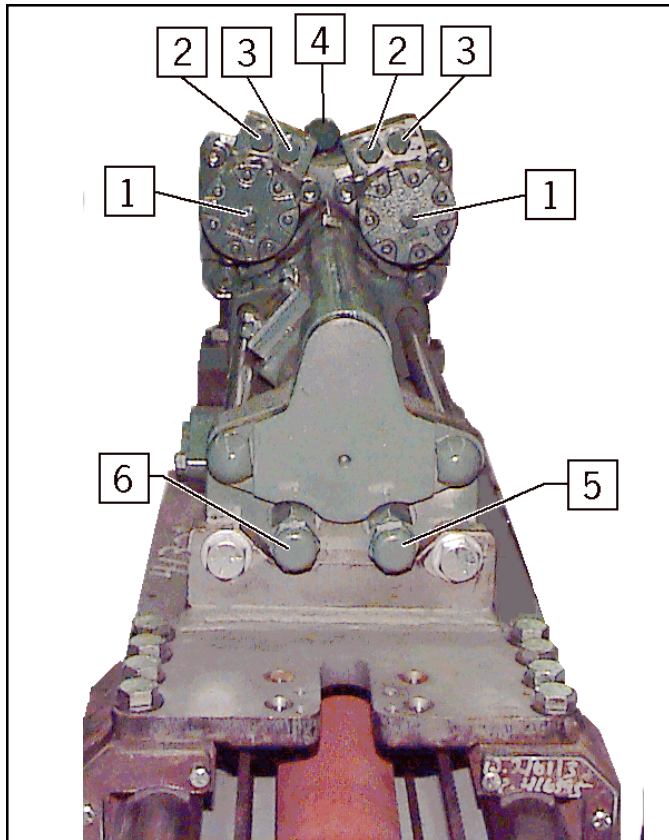

Fig. 6-19 HPR3818 (HPR1H-ATW) Drill Hose Connections
3. Tag and remove hoses connected to the drill (see fig. 6-19).